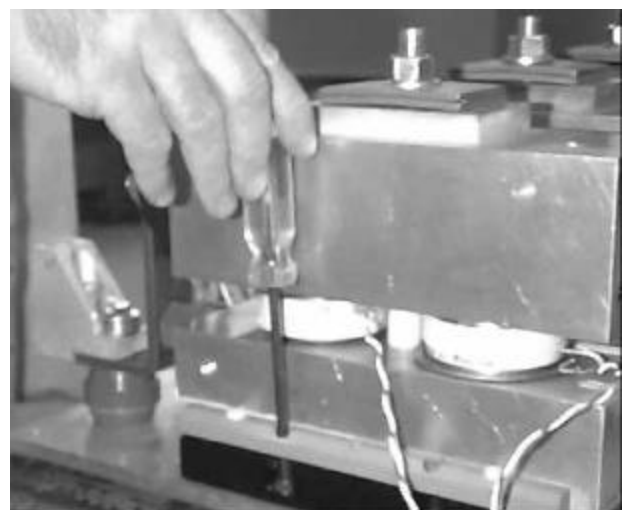

Figure 20. Removing the SCR mounting screws.
6. Remove the four screws holding the SCR Module to the mounting plate, as shown in Figure 20.